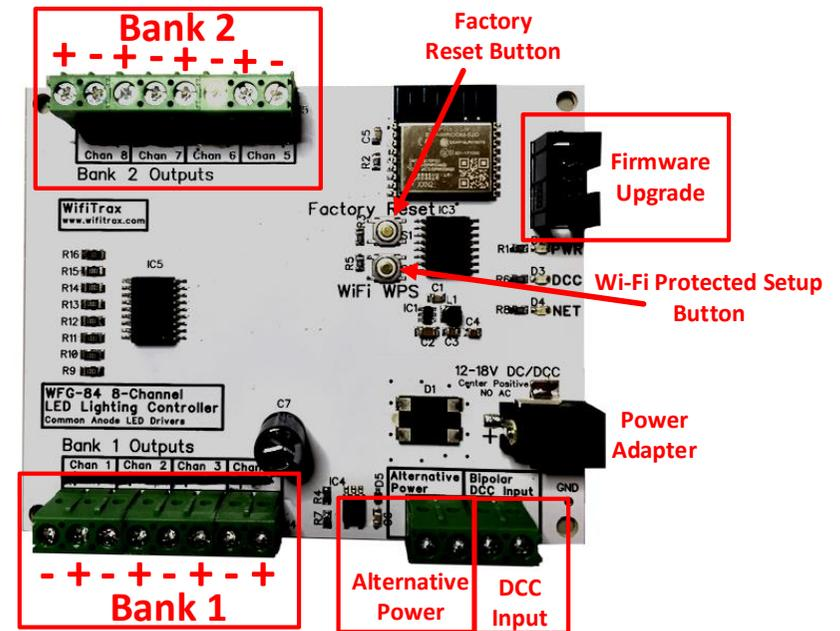

Figure 1 WFG-84 Connections
- (4) Optionally connect a bipolar DCC signal to the Bipolar DCC Input connections shown in Figure 1. If you are using DCC to control *and* provide power to the WFS-84 you should connect the DCC signal also to the Alternative Power connectors and omit the Power Adapter.